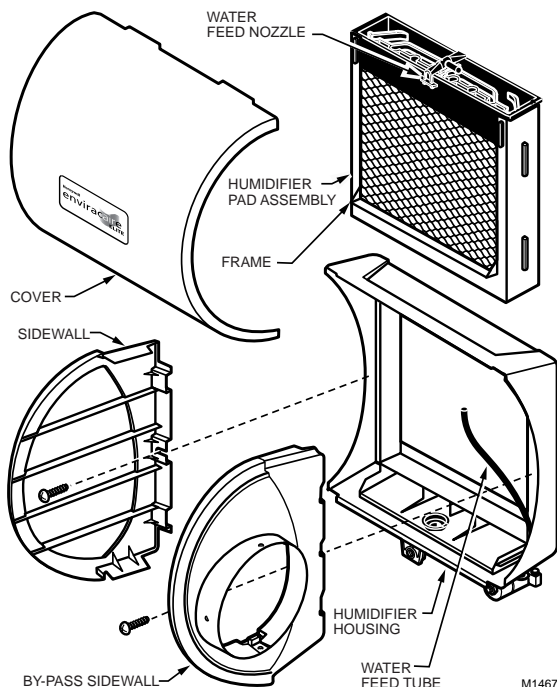

Fig. 4. Humidifier components.
4. Disassemble the humidifier; remove the cover and take out the humidifier pad assembly. See Fig. 4.